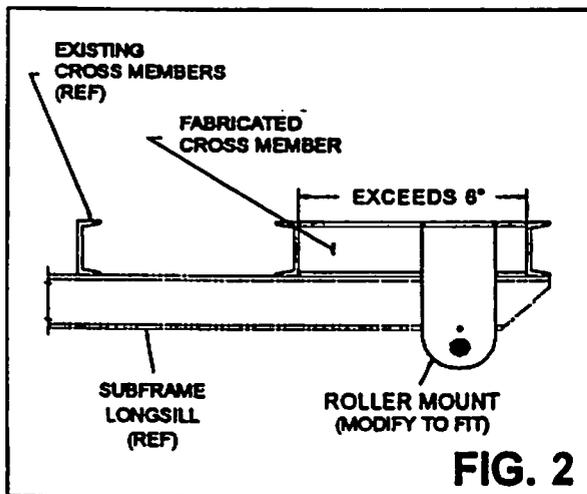

FIG. 2
3. Some modification to the roller mount bracket may be required for the roller mount to fit properly. If the existing container cross members are wider than 6", a fabricated support member of 1/2" plate or thicker will need to be added (See Fig. 2).
2. Center fender above tire using block to maintain the proper height. Fender should be approximately 6" above tire to allow for suspension movement (See Fig. 1). A maximum width of 48" from center of the truck to the outside edge of the fender should be maintained (See Fig. 2).
5. Attach cab guard weldment to truck frame using fasteners provided (See Fig. 2).
- Position drop down bumper on the longsills of the sub-frame (See Fig. 2 & 3). The mount brackets [Part No. 51H17] need to be positioned correctly to allow for sufficient room for bumper cradles [Part No. 51H19] (See Fig.2). Weld mount brackets onto the longsills of the sub-frame.
- Position bumper cradles [Part No. 51H19] on the longsills of the sub-frame. Check bumper cradles for squareness with respect to each other. The bumper tube [Part No.51H16] should come to rest within the bumper cradles when the container rests on the ground (See Fig. 2 & 3). Weld bumper cradles into place on longsills.